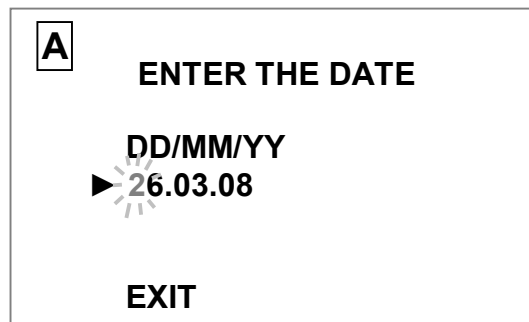

Fig. 2.9
- 7 Set pointer against YES line and press the "menu enter" button. Display shown in Fig. 2.9 comes on.